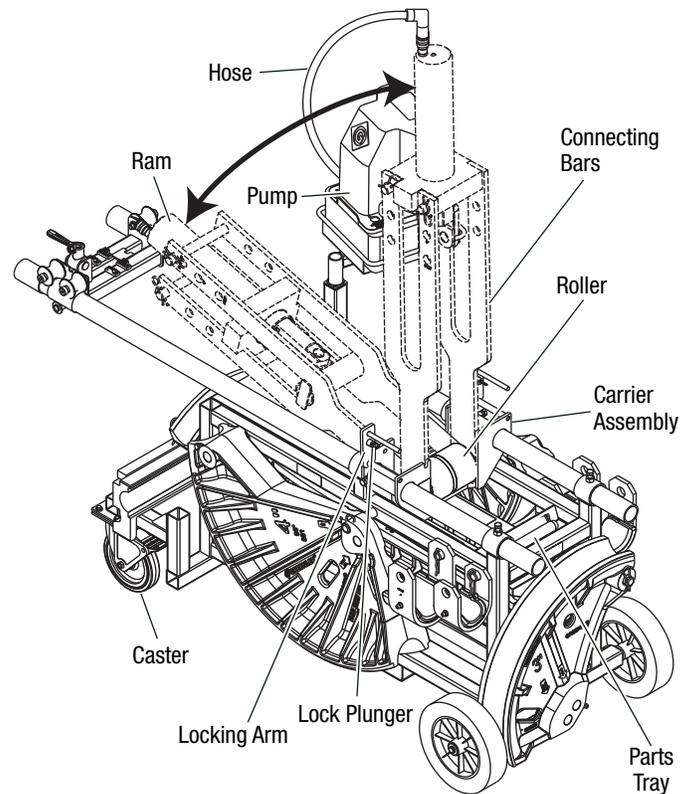

Figure 3
3. Place the ram in-between the connecting bars as shown in Fig. 3.